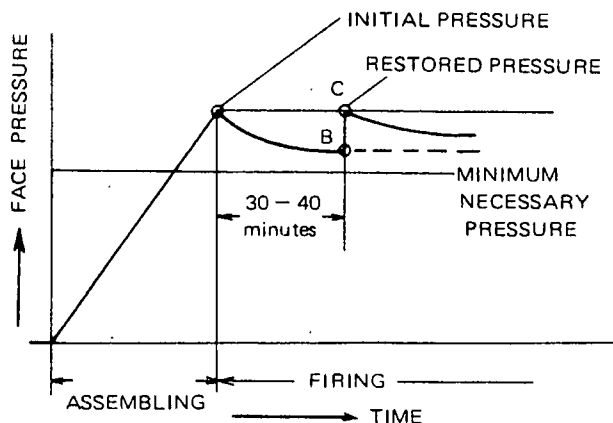

Fig. 3-2-48 Effect of retightening
- By retightening, face pressure of cylinder head is restored from point B to C as shown in Fig. 3-2-48.